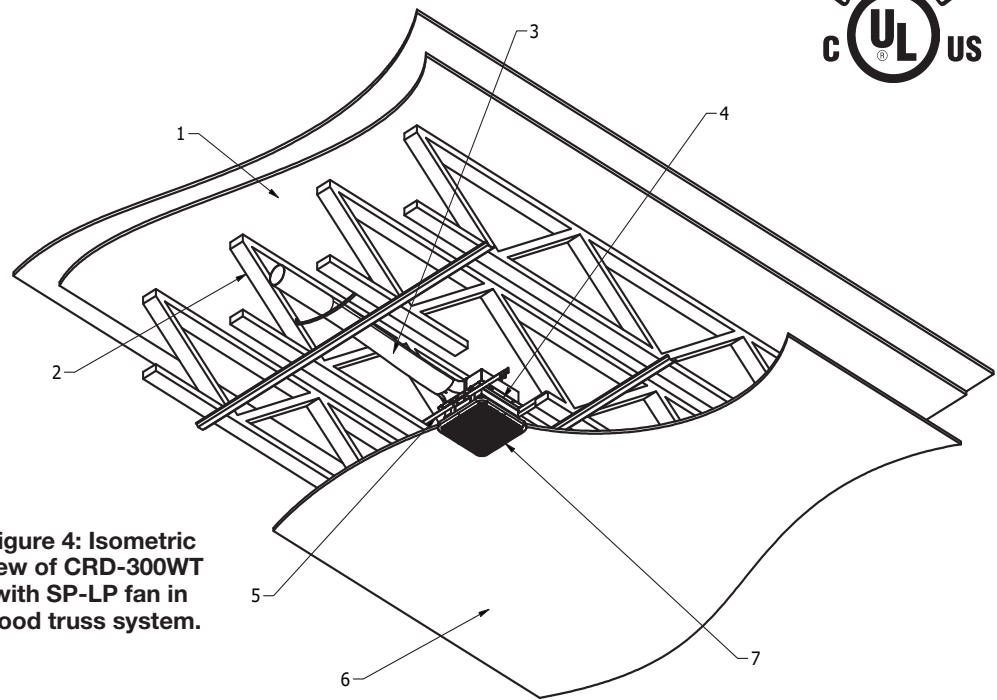

Figure 4: Isometric view of CRD-300WT with SP-LP fan in wood truss system.
6. Install the fan/damper assembly, with attached mounting angles, between the trusses as shown in Figure 4 and attach mounting angles to the trusses using 4 - 11/4 in. long steel screws per mounting angle.
9. Secure the plaster flange onto the fan/CRD assembly by fastening the (4) self-tapping screws provided into the Tinnerman clips installed in step 2.
11. Install the wire retaining bracket with the remaining (1) self-tapping screw.